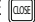

**Figure 10**
- 2) Press SCROLL  until display reads "OPEN MODE>MOM" or "OPEN MODE>C-STP." **Figure 10.**